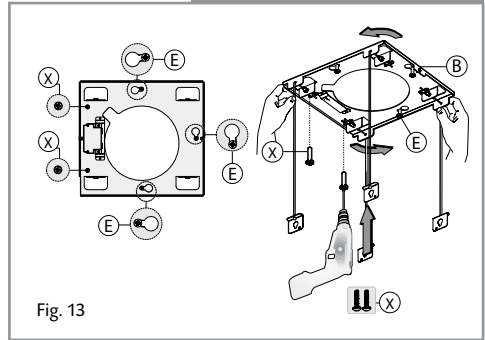

Fig. 13
4. Fit the ceiling support plate into position on the 3 screws and rotate it into position, as shown in Fig 13. Ensure that the mains supply cable is located in position and is not trapped or damaged.